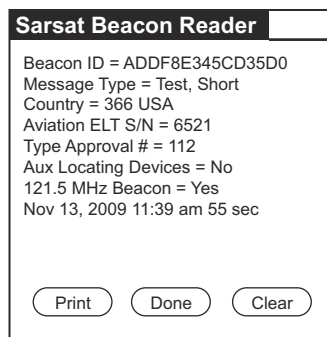

Figure 11. Short and Long 406 MHz Message Examples
- (2) Activate the ELT by placing the control switch in the "ON" position.
- (3) Allow the ELT to transmit for approximately 5 seconds.
- (4) Deactivate the ELT and read the test message broadcast at "turn-off". Message examples are shown in "Figure 11. Short and Long 406 MHz Message Examples".
- (b) The left hand example in "Figure 11. Short and Long 406 MHz Message Examples", is an ELT programmed for "User Protocol ELT with Serial Number", with a test Hex ID. The right hand example is an ELT programmed for "Standard Location Protocol ELT with Serial Number".
- (d) If the ELT is programmed with a location (long message) protocol and disconnected from the ELT/NAV Interface, the message will indicate "Position Invalid" in lieu of position data, as shown in the right hand example in "Figure 11. Short and Long 406 MHz Message Examples".